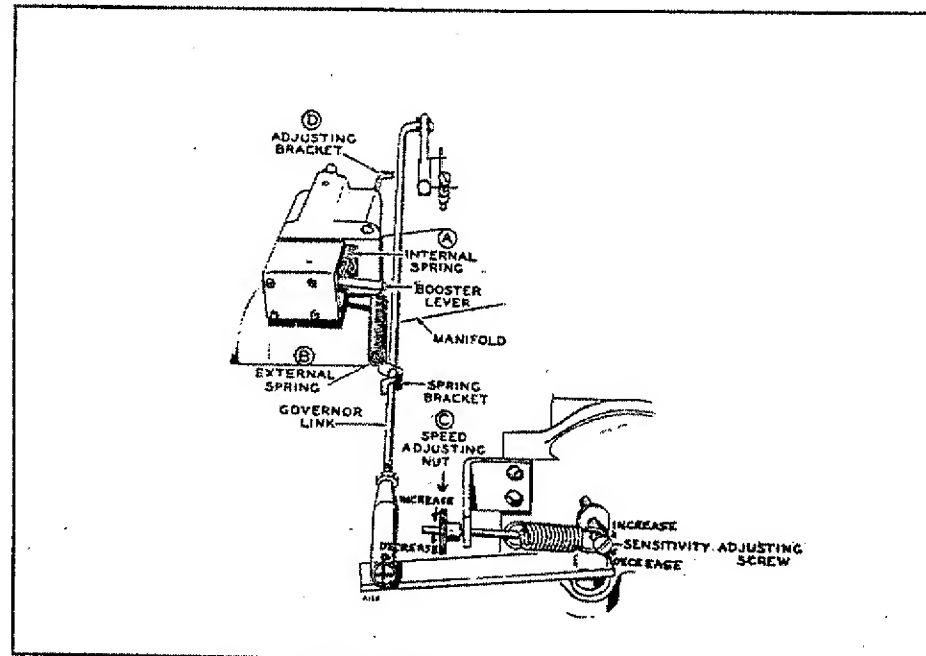

Fig. 21 Governor Booster
The booster is mounted on the intake manifold and is operated by engine vacuum through a small passage in the manifold. See Fig. 21. When the plant is operating at about half load or less, the engine vacuum is sufficient to cause the diaphragm to overcome the tension of the internal booster spring (A). Under these conditions, there is no tension on the booster external spring (B) and the booster does not affect the governor operation.
2. With the plant operating at no load, disconnect the booster external spring (B), Fig. 21. Turn the speed adjusting nut (C) to obtain a frequency reading of 60 to 61 cycles for a 60 cycle plant (50 to 51 cycles for a 50 cycle plant). The voltage should be within the limits shown in the table IV, according to the rated plant voltage shown on the plant nameplate.
3. Connect a full electrical load to the generator. As the electrical load is connected, the governor should act smoothly and quickly to keep the voltage within the limits in the table. However, there should be not more than a spread of 3 cycles between the no load frequency and the full load frequency. For example, if the frequency was 60 cycles at no load, then the full load frequency should be not less than 57 cycles. If the cycle spread is more than 3 cycles, turn the sensitivity screw, Fig. 21, in (clockwise) a half turn. This will, in turn, necessitate a slight compensating speed nut adjustment. Repeat the process until the cycle spread is within 3 cycles and voltage is within the limits shown in the table.
8. After satisfactory performance has been attained under various loads the booster can be connected. With the plant operating at no load, connect the booster external spring, Fig. 21. Adjust the bracket on the governor link just to the position where there is no tension on the spring.
9. Now connect the full electrical load to the generator. The frequency should stabilize at a point 1 to 2 cycles HIGHER than the no load frequency. For example, if the no load frequency is 60 cycles, the frequency under full load should be 61 to 62 cycles. If the rise in frequency is more than 2 cycles, lessen the internal spring tension. If there is a drop in the frequency, increase the internal spring tension. Adjust the tension of the internal spring by pulling out on the spring bracket (I) and moving the pin to a different hole.
12. The booster requires little maintenance other than using a fine wire to clean the small hole in the short vacuum tube which fits into the hole in the top of the engine intake manifold. Do not enlarge this hole. If there is tension on the external spring, Fig. 21, when the plant is operating at no load or light load, it may be due to improper adjustment, restricted hole in the small vacuum tube, or a leak in the booster diaphragm.